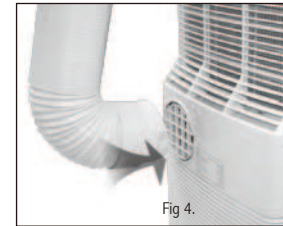

Fig 4.
**D. Connecting the Exhaust Hose to the PAC : Fig 4.**